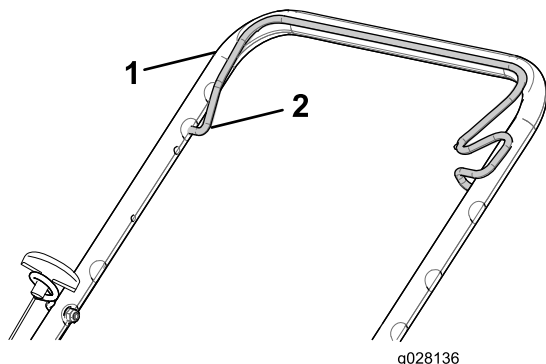

Figure 15
2. Hold the blade-control bar against the upper handle (Figure 15).